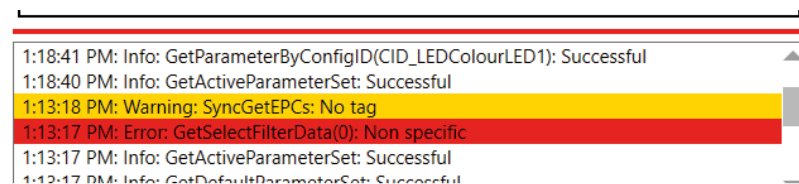

Fig. 24: Status field
- ▶ To expand the status field section and see more status messages, click on the boundary line between the sections (red line in Fig. 24) and drag it upwards.